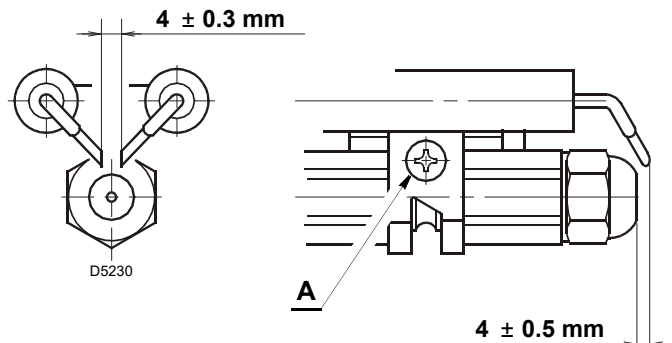
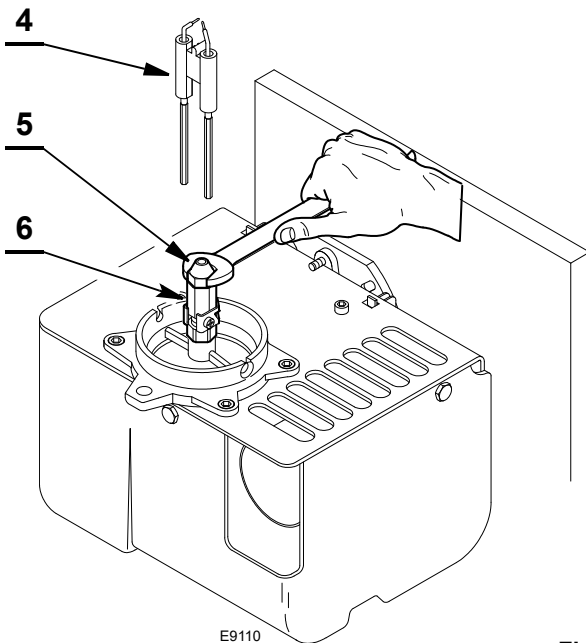

Fig. 19
Fig. 22
Before removing or assembling the nozzle, loosen the screw A) (Fig. 19) and move the electrodes ahead.
- Remove the electrodes assembly 4)(Fig. 22) from the nozzle holder 6) after loosening its fixing screw A)(Fig. 19 on page 21).
- Replace the nozzle 5)(Fig. 22) and screw the new one on properly, holding it as illustrated in figure.